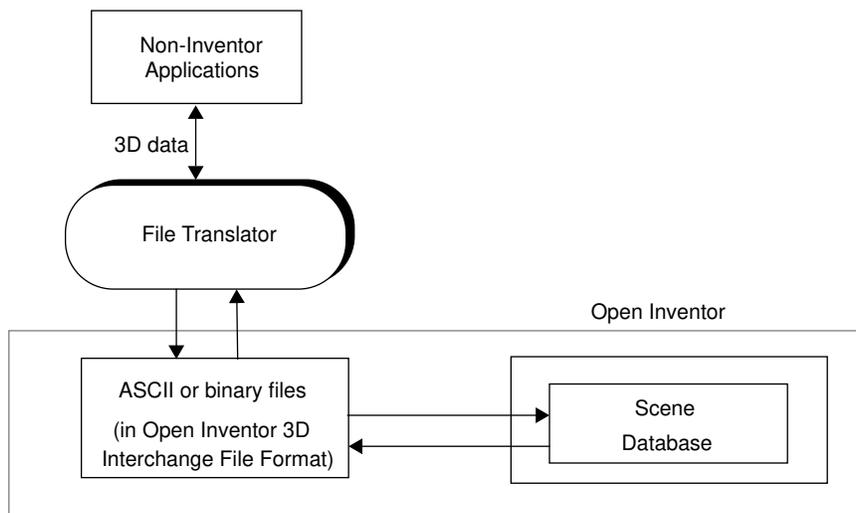

Figure 1-1 Exchanging 3D data between Inventor and non-Inventor applications
- Figure 1-1** Exchanging 3D data between Inventor and non-Inventor applications 1
Translator programs make possible the flow of 3D data between application programs using Open Inventor and non-Inventor. Figure 1-1 illustrates this data flow.